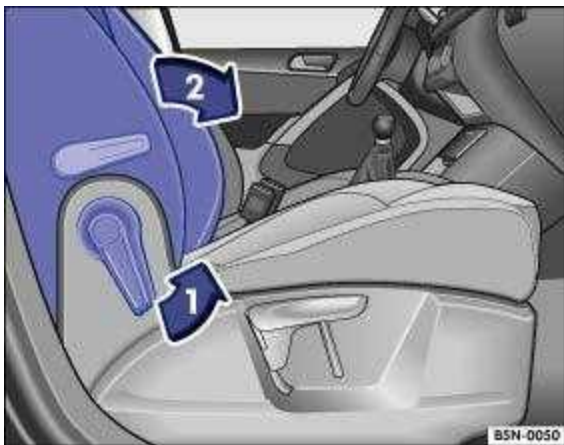

Fig. 70 Front passenger seat: folding backrest forwards.
Release the front passenger seat backrest in the direction of the arrow ⇒ Fig. 70 ① .
Fold the front passenger seat backrest forwards in the direction of the arrow ⇒ Fig. 70② until it is horizontal.
To fold back, release the front passenger seat backrest again ⇒ Fig. 70① .